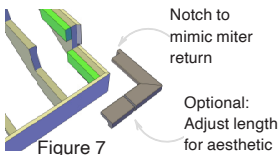

Figure 7
- Cut and pre-assemble the trims for each step. \* For Pre-Fab Corners #9979, see figures 7 and 8.